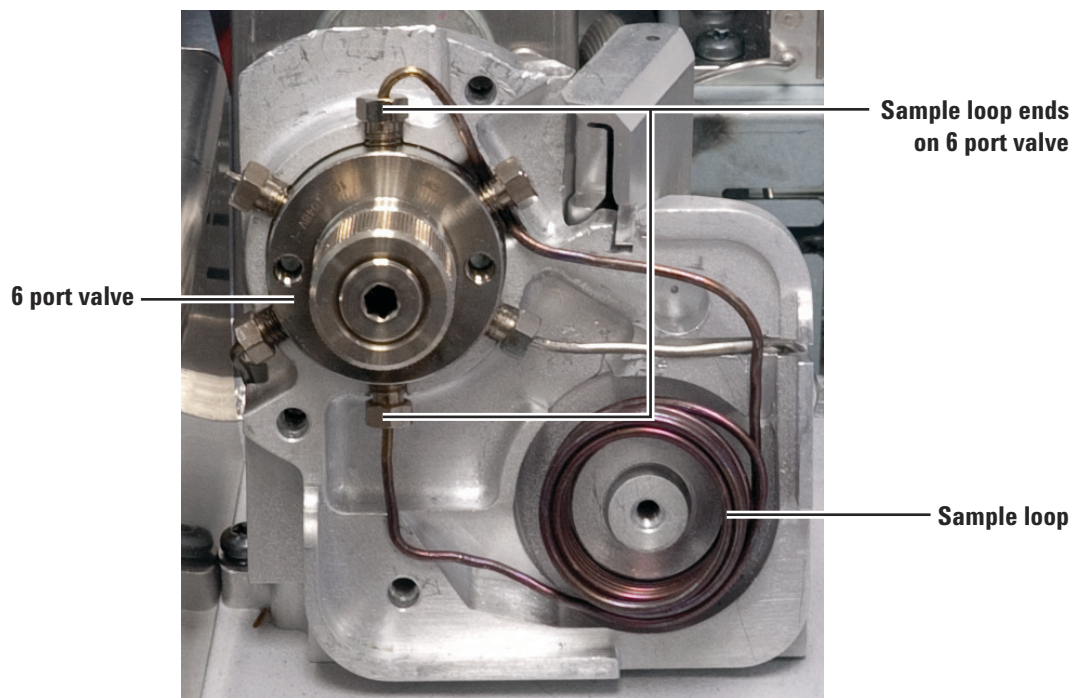

Figure 27 Disconnect the sample loop from the 6 port valve
- 10 Using a 1/4-inch wrench, disconnect the two sample loop ends from the 6 port valve (Figure 27).
- 11 Remove the sample loop (Figure 27).